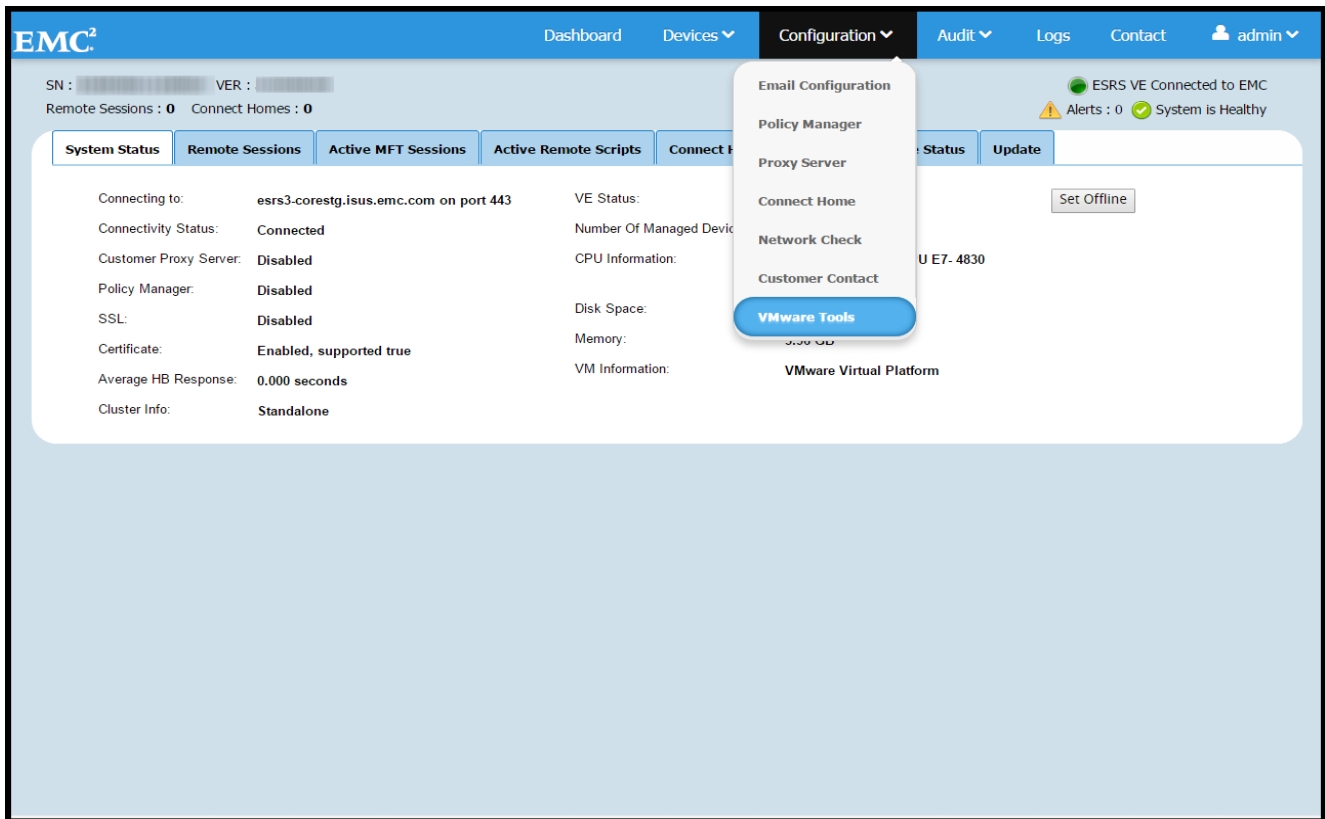

Figure 83 Selecting VMware Tools
1. Navigate to the SRSv3 Web UI -> **Configuration** -> **VMware Tools**, as shown in Figure 83.